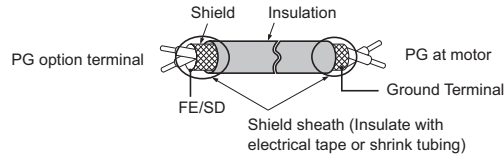

Figure 40 Preparing Ends of Shielded Cable
4. Prepare wire ends as shown in **Figure 40. Refer to Table 83 on page 190** to confirm that the proper tightening torque is applied to each terminal. Take particular precaution to ensure that each wire is properly connected and wire insulation is not accidentally pinched into electrical terminals.